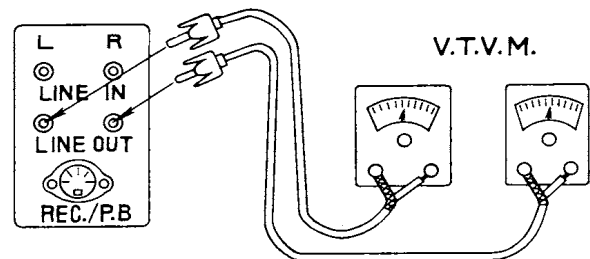

Fig. 11
- b) Place turn the volume control knob (VOLUME: CH-1 or CH-2) completely to the right (clockwise) to gain maximum volume. Then connect the V.T.V.M. (vacuum tube voltmeter) to the LINE OUT JACK as shown in Fig.11. Adjust the output of the low frequency oscillator so that the output voltage reaches 0.45V (Adjust the intensity of input signals). Even when decreasing the input, if the output voltage does not decrease to the predetermined